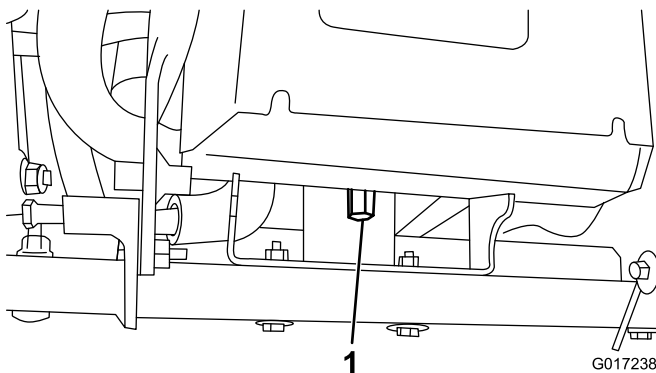

Figure 8
4. Remove the tall nut that secures the rear of the battery base to the machine frame (Figure 8).